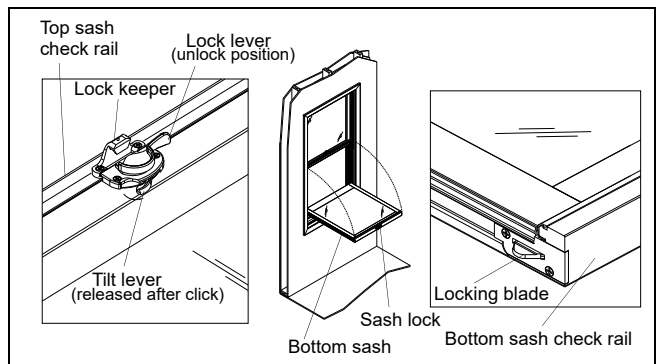

Figure 21 Interior view
20. To tilt the bottom sash, simply raise sash about 4" (102). Pull the tilt lever (nested in the sash lock base) until it clicks. Hold lever until latches clear the unit frame when tilting. Ease top edge of bottom sash out toward you to a horizontal position. The sash will pivot in the hardware near the bottom. Support top of tilted sash carefully with a stable support such as a padded step stool or chair to guard against damage or personal injury. See figure 21.